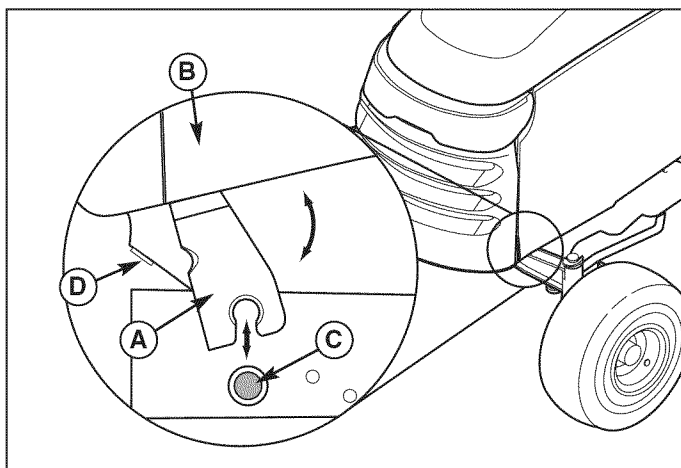

Figure 13. Hood Removal and Installation
3. Rock the hood back slightly and lift hood (B, Figure 13) off pivot posts (C). Set hood on a clean and flat surface.
1. Set hinge posts (A, Figure 13) onto pivot posts (C).
2. Roll the hood forward until it reaches the stops (D).
3. Install the socket and bulb (A) by pushing it into the bezel (B) twisting the socket and bulb clockwise. Repeat on other side.